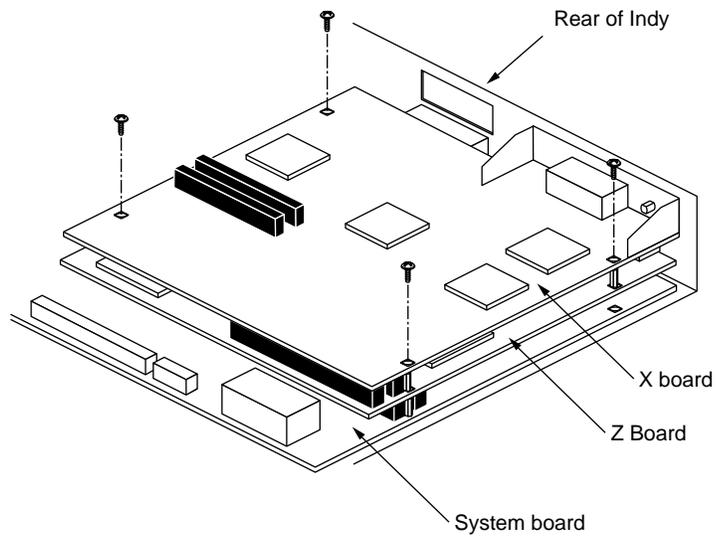

Figure 2-4 Removing the Screws From the X Board
1. Using a Phillips screwdriver, remove the screws securing the X board to the Z board, as shown in Figure 2-4.